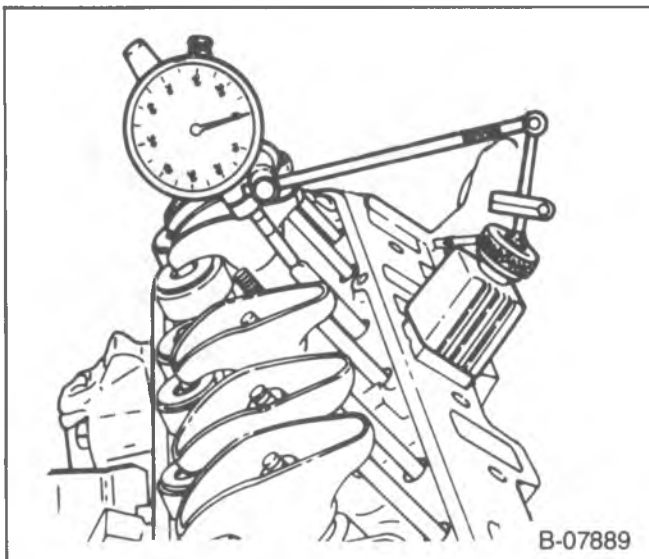

Figure 24—Measuring Camshaft Lobe Lift
2. Refer to figure 24. Position the dial indicator (part of J-8520) so the plunger rests on the pushrod end, as shown. Make sure the pushrod is in the lifter socket.